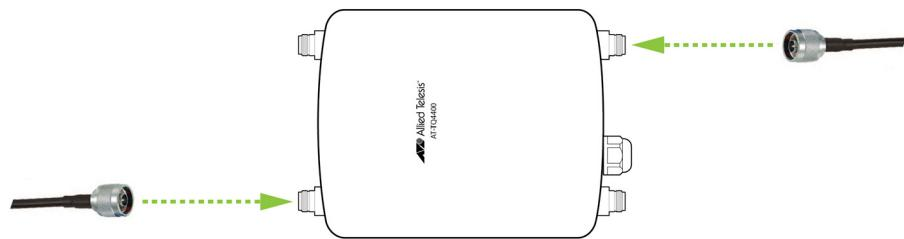
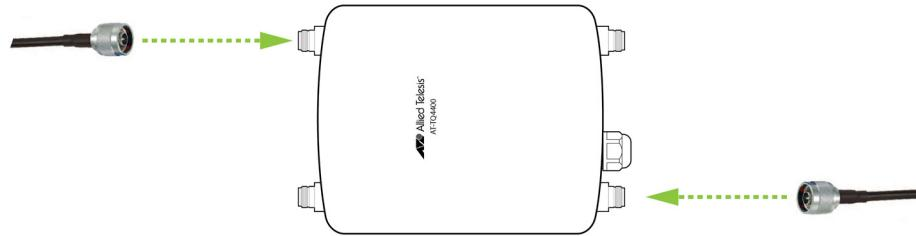

Figure 26. Installing Antennas for 2.4GHz to the Access Point
Figure 27. Installing Antennas for 5GHz to the Access Point
When you use the 2.4GHz band, see Figure 26; when you use the 5Ghz band, see Figure 27.
4. Connect cables to the connectors on the back panel of the antenna as shown in Figure 26 on page 58.